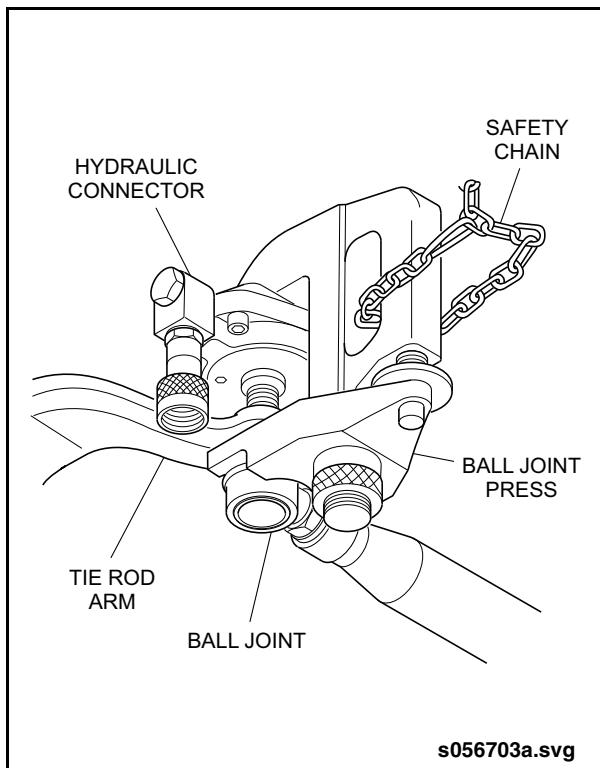

Fig. 1-19: Tie Rod End Removal
2. Assemble the ball joint press (Items 64 & 65) and position over the ball joint. Align the press so the piston is centered on the ball joint and tight. See “Fig. 1-19: Tie Rod End Removal” on page 18.